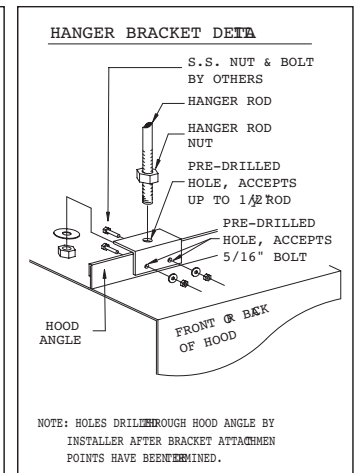

FIGURE 2
6. Brackets are provided for hoods which are to be installed end to end or back to back. Bolt brackets together using 3/8" bolt through holes provided (See Fig. 2).